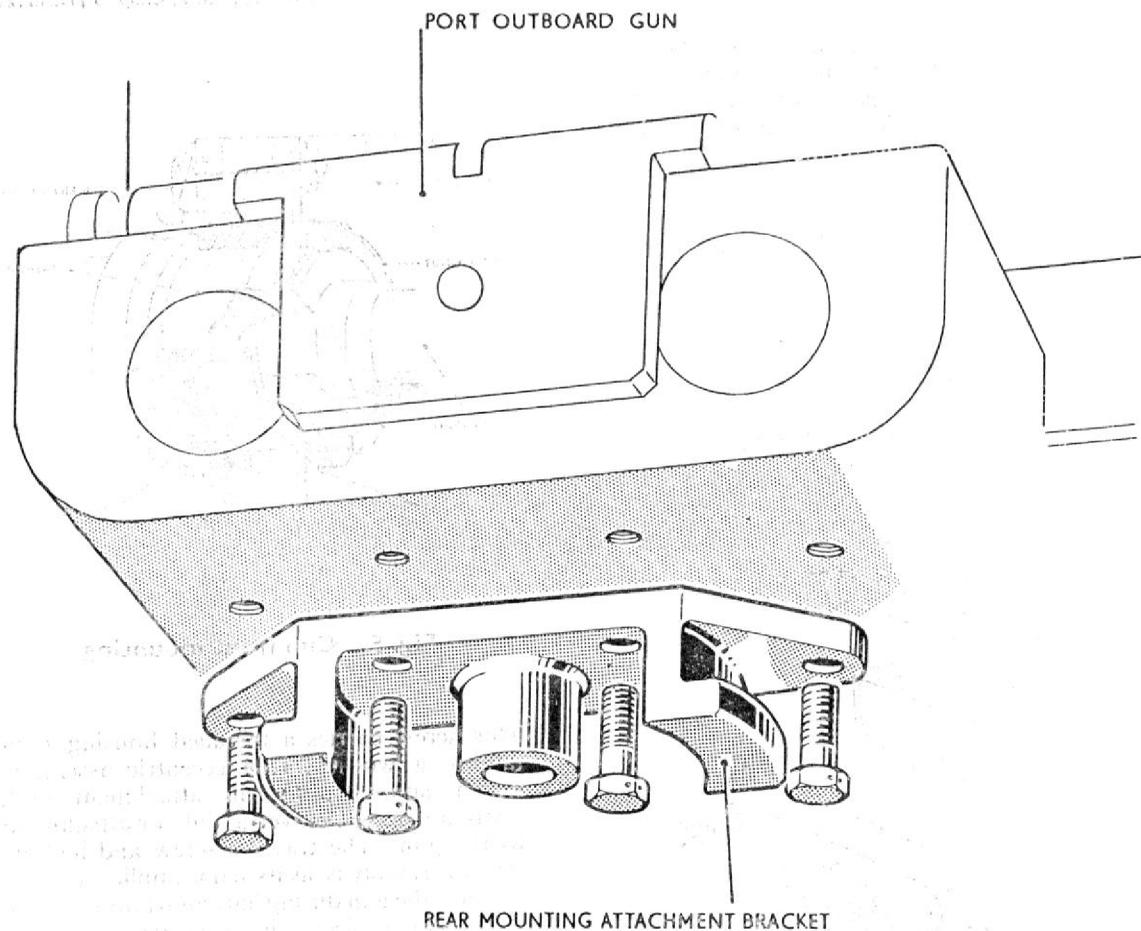
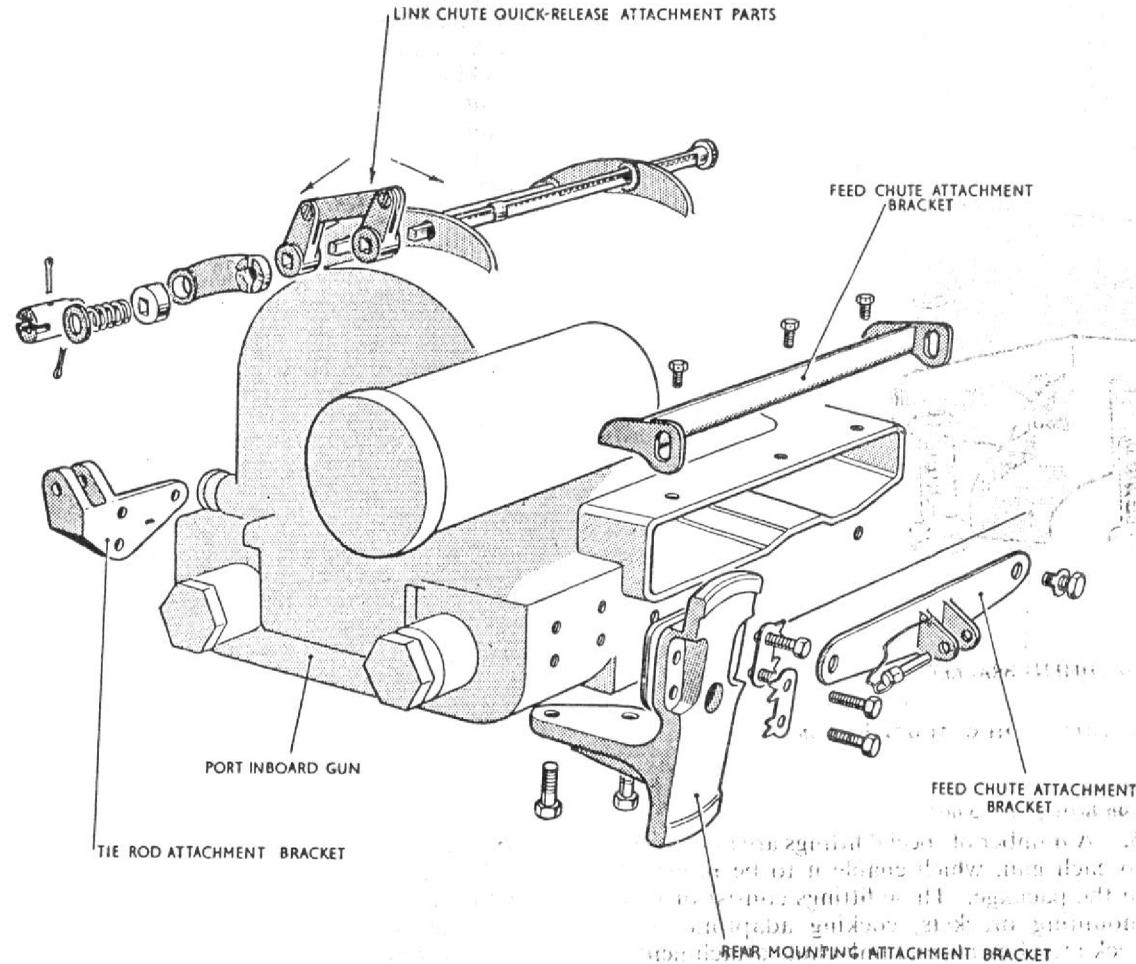

Fig. 3. Rear mounting attachment bracket on outboard guns
Fig. 4. Gun fittings
Gun fittings (fig. 3 and 4)
6. A number of special fittings are assembled to each gun, which enable it to be mounted in the package. These fittings consist of rear mounting brackets, cocking adaptors, feed neck attachments and link chute attachments. The rear mounting brackets are bolted to the rear of the gun cradle; those for the outboard guns being positioned on the underside of the cradle (fig. 3) while those for the inboard guns (fig. 4) are located on the sides of the cradle and are thus of different design. One